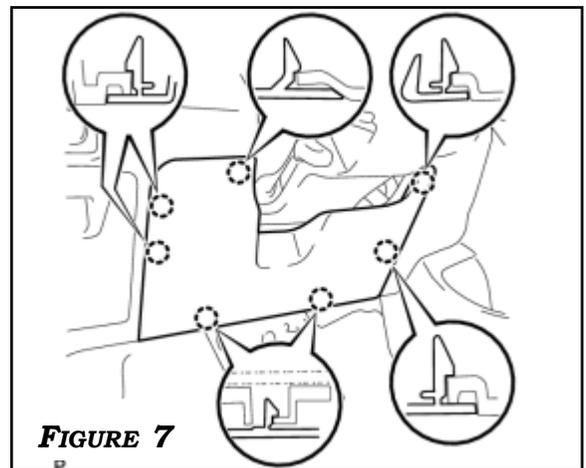

FIGURE 7
7. OPEN THE INSTRUMENT PANEL BOX. PULL THE INSTRUMENT PANEL BOX OUT HORIZONTALLY WITH THE INSTRUMENT PANEL OPEN AND DISENGAGE THE 2 HINGES TO REMOVE. **FIGURE 7**